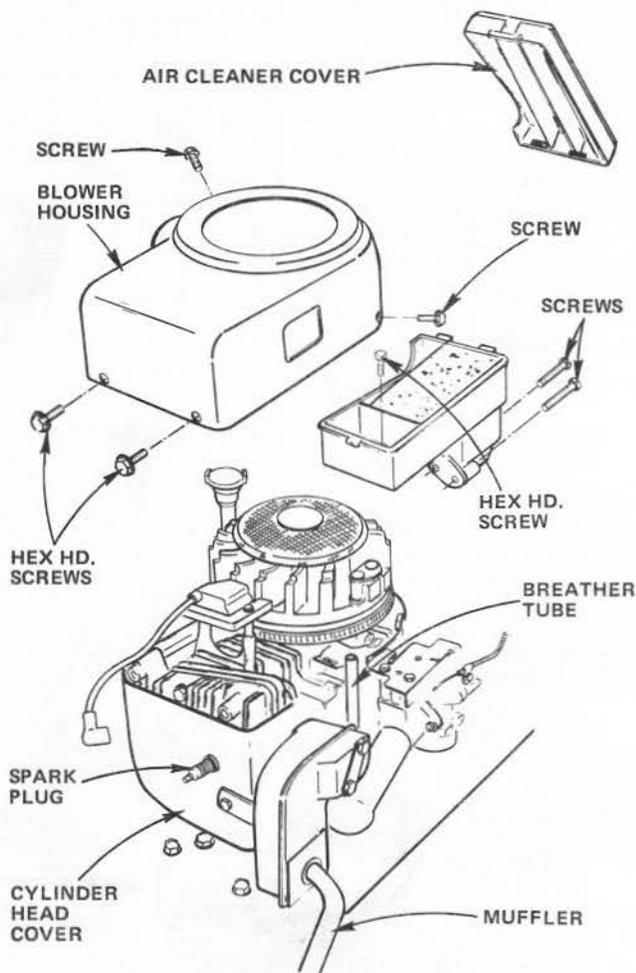

FIGURE 29
- a. Snap Cover off Air Cleaner (Fig. 29). Remove Hex Head Screw from inside Air Cleaner. Remove two Slotted Head Screws from rear of Air Cleaner. Pull Air Cleaner off.
NOTE: PRESS BREATHER TUBE INTO BOTTOM OF AIR CLEANER (FIG. 29)
Do not operate the tractor without a Muffler (Fig. 29) or tamper with the exhaust system.